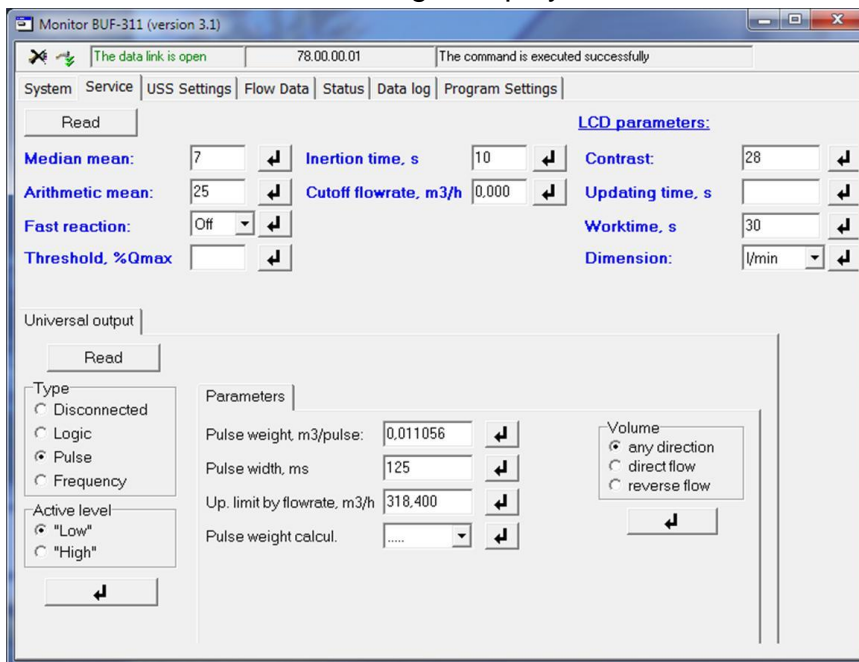

Fig.8. "Service" window
4.1.3. Click on the "**Service**" tab. Fig.8 displays the window that will appear.